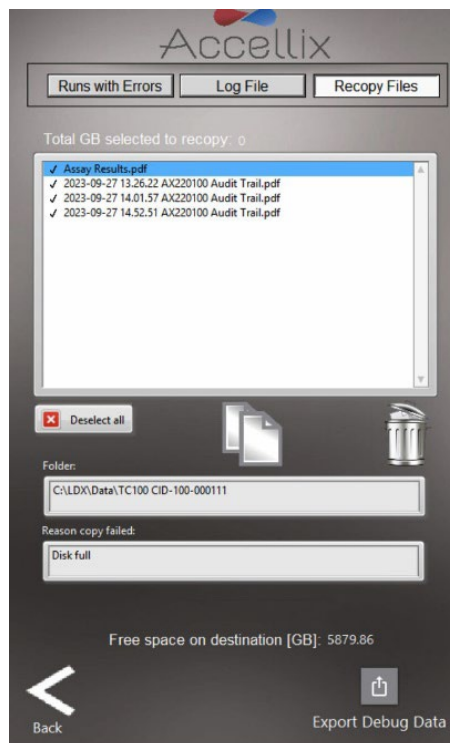

Figure 25: Recopy Files
3. If **Recopy Files** tab is selected, the screen will display all of the data files that have not previously been copied (Figure 25)